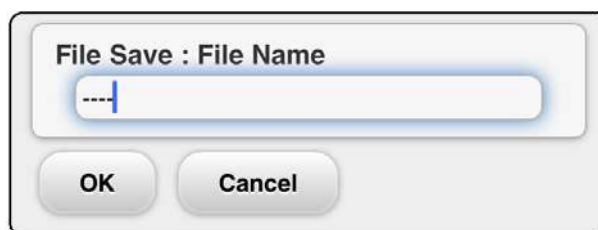

Fig. 4-113 Measured Data Saving Window
- (1) When saving the measured data, press  [save button] icon shown at the header part.
- (2) The file input window (Fig. 4-113) will then be shown. After a saving file name is input, press [OK button].